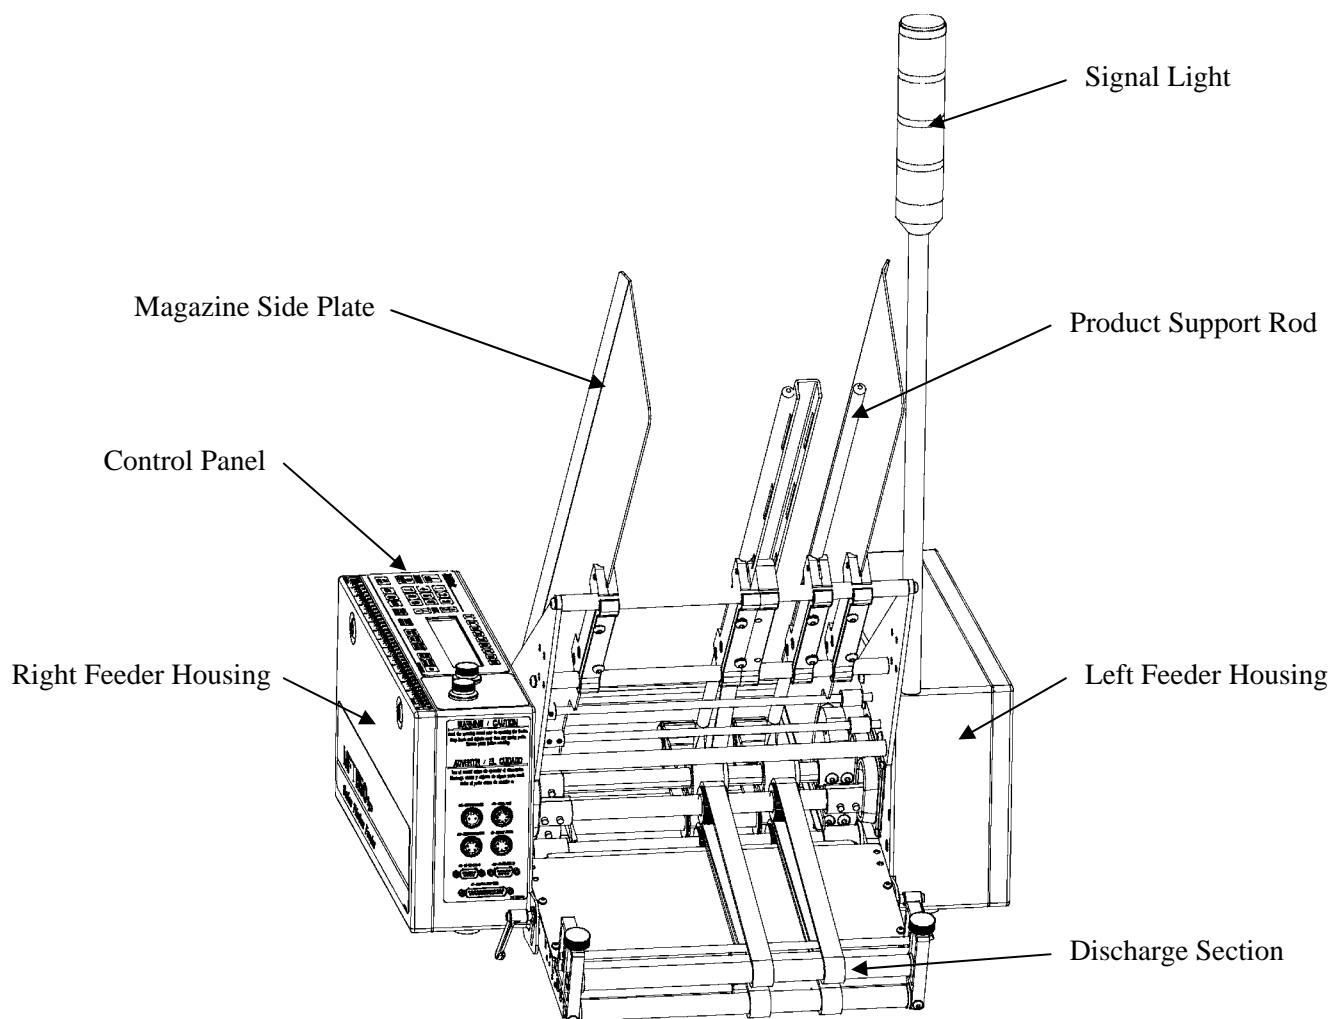
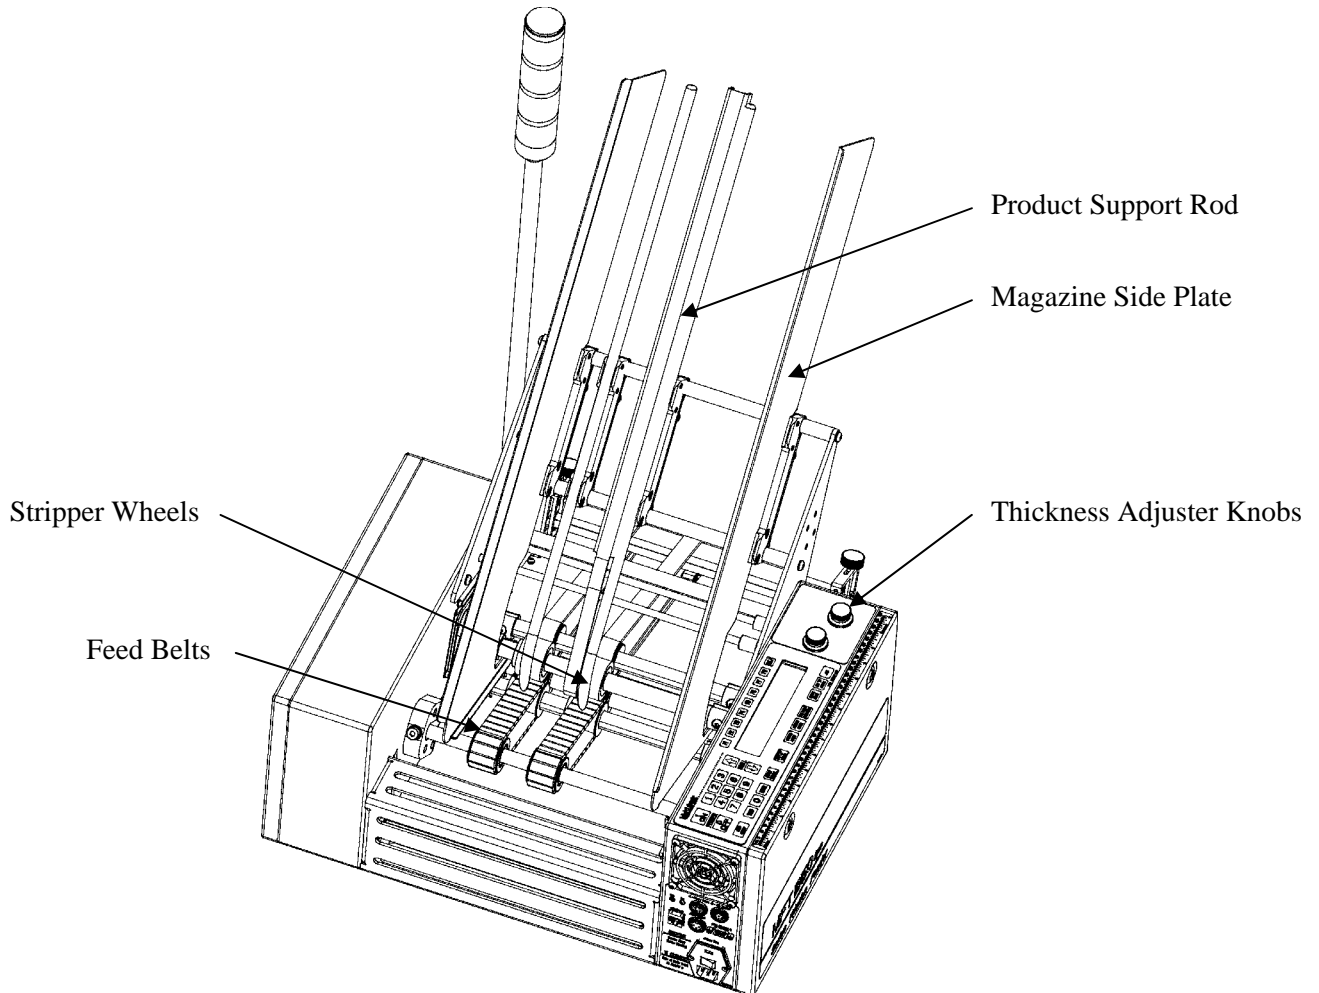

Figure 2.1 - MFT IP Friction Feeder Front View Descriptions
Figure 2.2 - MFT IP Friction Feeder Rear View Descriptions
The MFT IP Family of Friction Feeders are ruggedly built machines designed to feed and count flat materials at high speeds without any damage to the product. The feeders consist of two feeder housing enclosures, one on each side of the feeder machine as shown in Figures 2.1 and 2.2. With the exception of the main drive motor, all electronic parts are mounted inside the electrical housing (operator side). The main drive motor is connected to the drive mechanism inside the mechanical housing (non-operator side). The two feeder housings form the base of a rigid frame supported by housing frame brackets in the rear, and a magazine support assembly in the front.
The product stack is held in position by the magazine side plates, the product support rods, and the product support curve assembly in the rear, see Figure 2.1 and Figure 2.2. Depending upon the feeder model and the product being fed, the number of product support curve assemblies, feed belts, stripper wheels, and discharge belts may vary. To accommodate different product thicknesses, the stripper wheels may be raised or lowered by using the thickness adjuster knob.
The control panel features a custom membrane keypad, as shown Figure 2.2. The control panel is mounted on top of the electrical housing to accommodate easy access and set up. A three-color signal light is also mounted on top of the electrical housing to provide a feeding status that can be seen from a distance.
4. Install the Product Support Rod Assemblies. Each product support rod assembly should be mounted as shown in Figures 2.1 and 2.2. Position the product support rod assemblies so that the curved sharpened tip faces inward and is aligned with the center line of the feed belt and that it does not touch either the stripper wheel or feed belt. If two or more product support curves are used, they should be positioned at identical heights and locations with respect to the stripper wheels and feed belts.